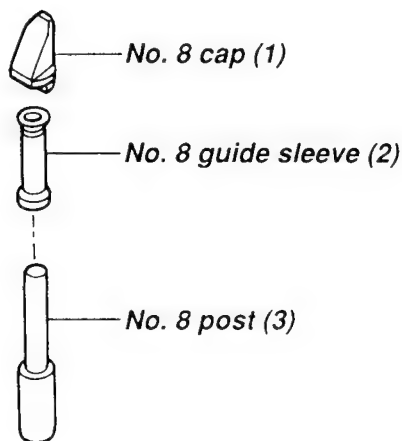

Fig. 4-3-2
1. Remove No. 8 cap (1) and No. 8 guide sleeve (2) in this sequence as shown in Fig. 4-3-2. When reassembling, perform the previous steps in reverse order.
2. To mount No. 8 guide sleeve (2), insert No. 8 cap (1) onto No. 8 post (3) and push the cap downward while turning it left and right.